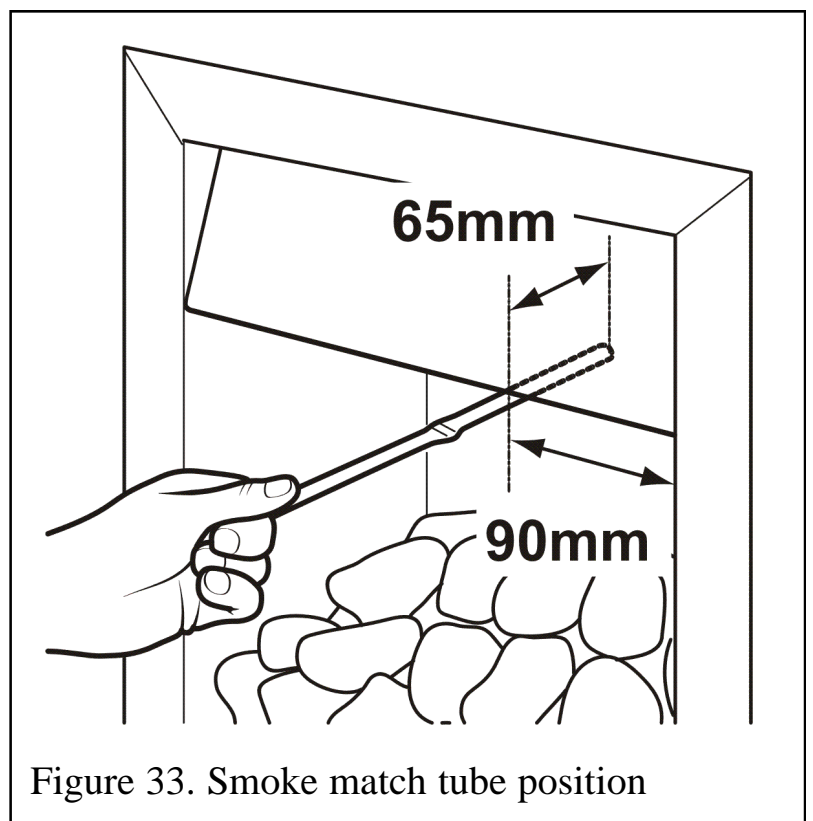

Figure 33. Smoke match tube position
4. The smoke match should be placed horizontally into the hotbox at the right hand side (See figure 33).